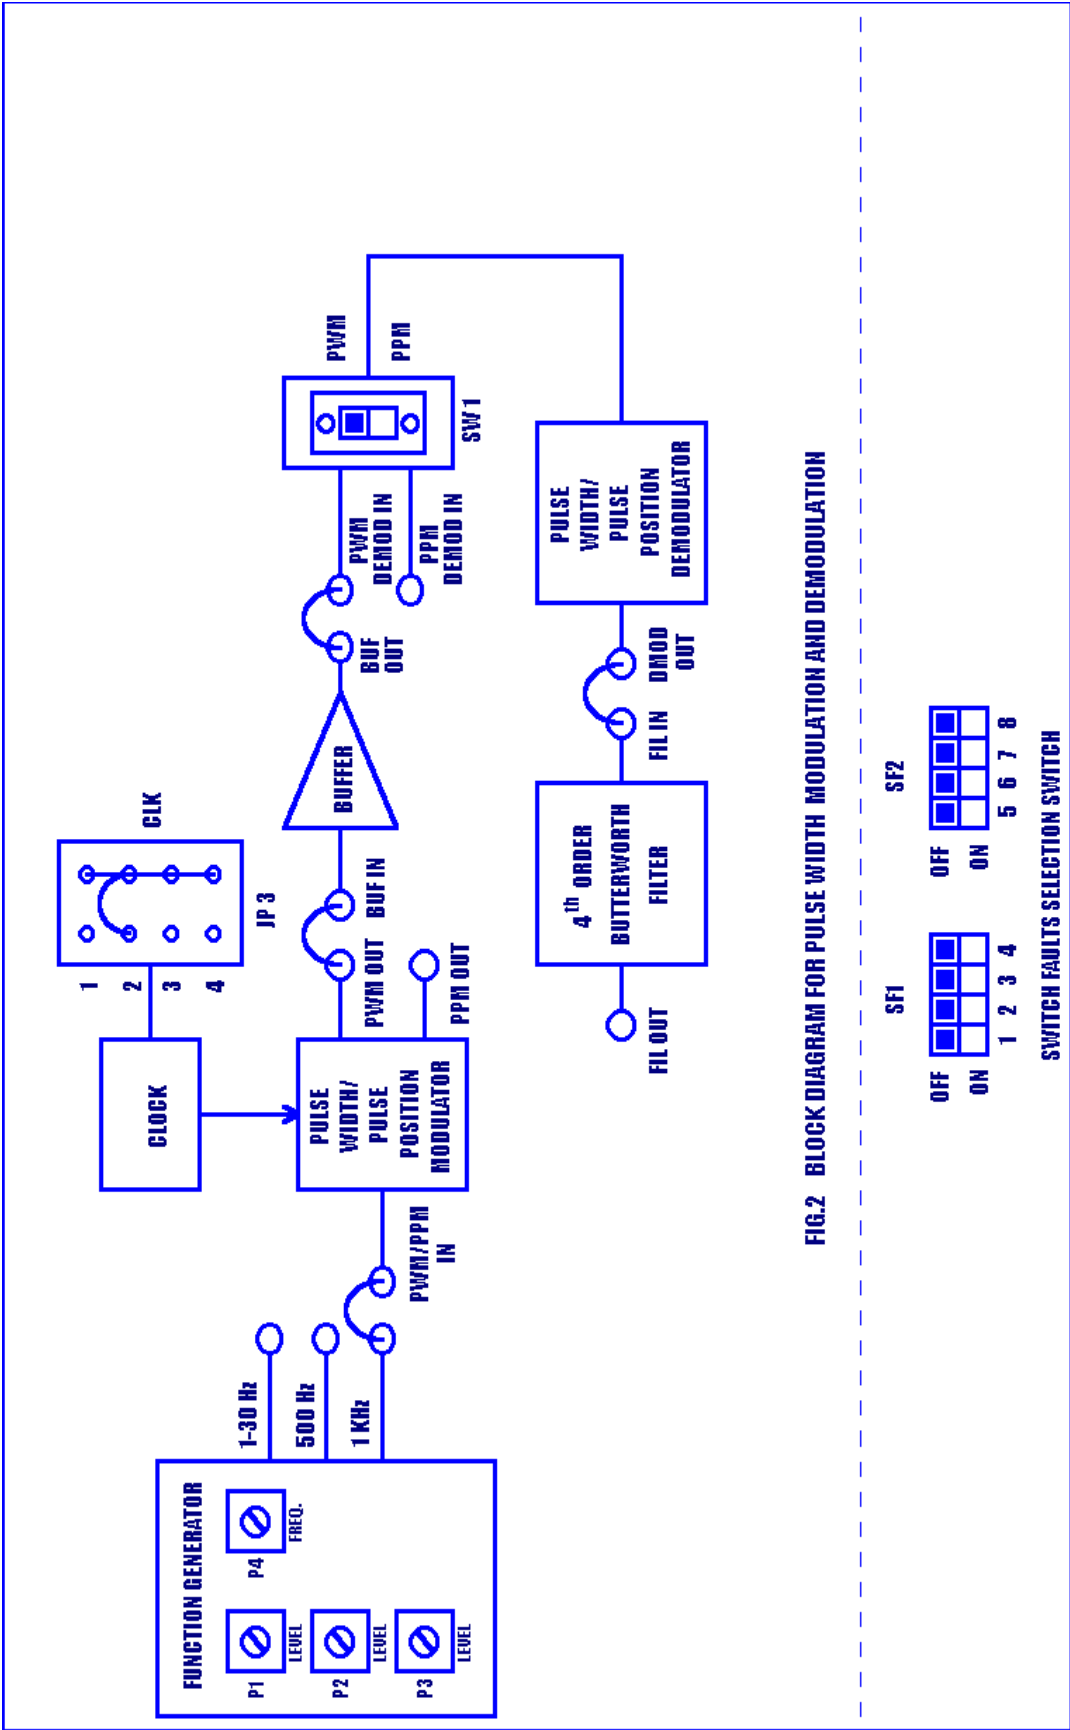

FIG.2 BLOCK DIAGRAM FOR PULSE WIDTH MODULATION AND DEMODULATION
1. Refer to the block diagram (Fig. 2) and carry out the following connections and switch settings.